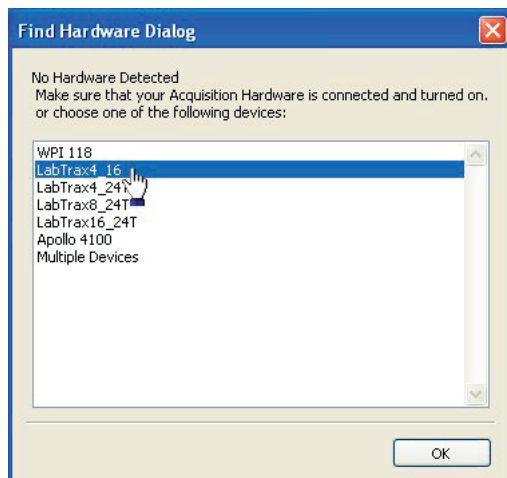

Fig. 35—Found Hardware dialog box
**NOTE:** if no hardware is connected to the computer when LabScribe is launched, the **Find Hardware** dialog box (Fig. 35) appears when LabScribe is launched. Select the appropriate hardware device and click the **OK** button. (For the **TBR4100/1025**, select **LabTrax4\_16**.)
- 2. Select the **Channel** tab at the top of the **Preferences Dialog** window. This tab allows for configuration of all channels (Fig. 35).